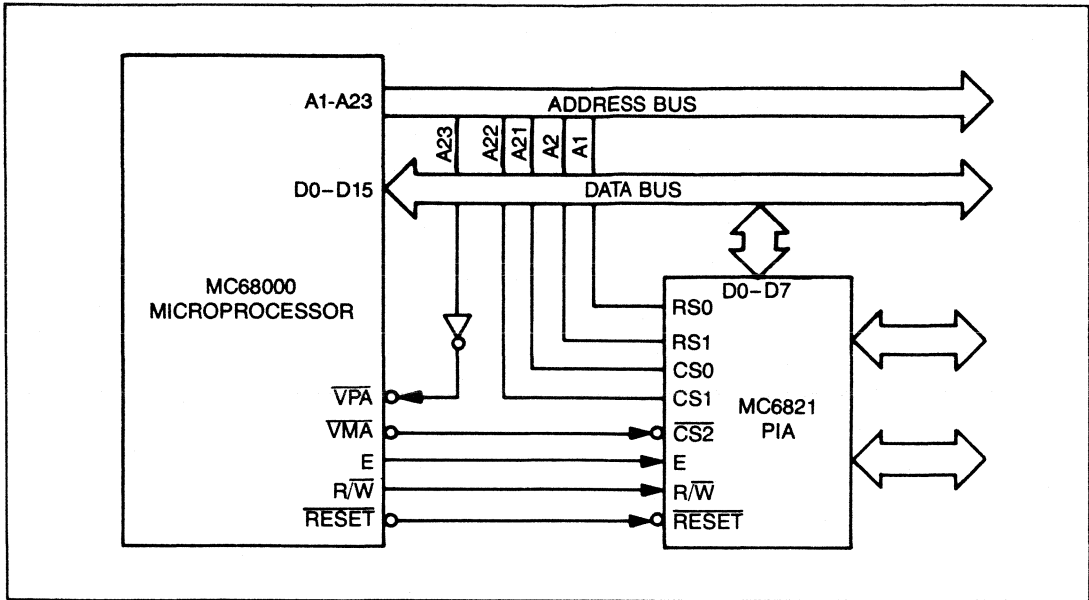

Figure 7: Example of MC68000 Interface Connections for MC6821 Peripheral Interface Adapter
MC68000 and the MC6800 does not stop at software compatibility (by translation) but also extends to peripheral controller interfacing. Motorola's extensive line of intelligent M6800 family peripherals (including the MC6854 Advanced Data Link Controller and the MC68488 General Purpose Interface Adapter) can be directly and easily interfaced to the MC68000. Three signal lines; Enable (E), Valid Memory Address (VMA), and Valid Peripheral Address (VPA) are provided to simplify the interface to Motorola's standard MC6800 peripherals as shown in Figure 7. Interface to the new MC6801E (Single Chip Programmable Controller) is also possible, allowing user implementation of specialized input/output functions. In addition, the MC68000 is supported by unique peripheral controllers expected of an advanced architecture microprocessor, including a DMA Controller and a Memory Management Unit.